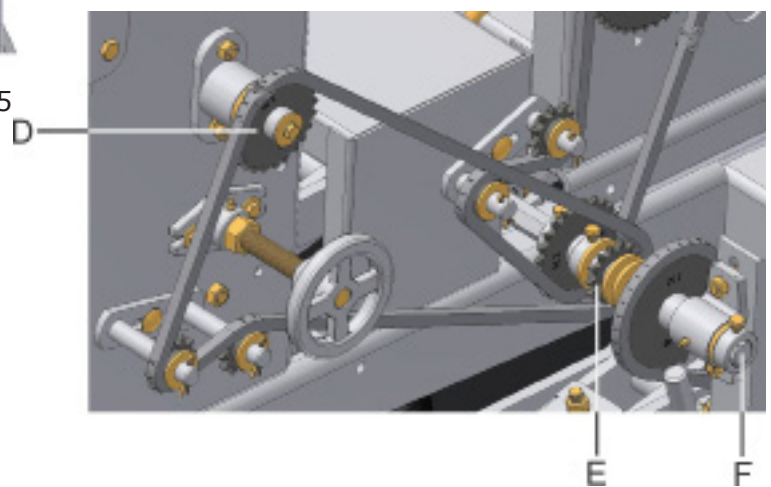

fig. 16
The transmission axle (C) is carried out by sprockets (D) and (E) (fig.16), driven by the drive axle (F).